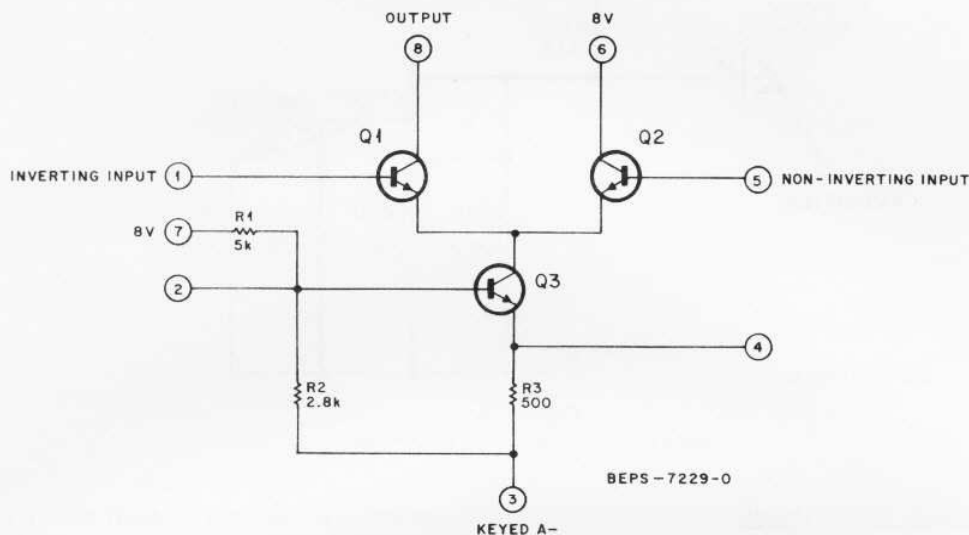

Figure 3.
Since the power control board has the capability to regulate the output of the amplifier from a completely cut-off state to above the rated output power, a definite controlled output level is necessary whenever the exciter/driver is keyed. The desired controlled output level is determined by bias voltages present on the inverting and non-inverting inputs of the differential amplifier IC601 (see Figure 3.) Under normal operating conditions (1:1 VSWR; 100% rated power out) the bias on the differential amplifier inputs are developed as described in the following paragraphs.
4.4.2.2 A defective IC on the power control board may be located by dc voltage measurements. Measure the dc voltages at the pins of the IC, as shown in the troubleshooting charts. Refer to the troubleshooting charts or the IC601 Schematic Diagram (Figure 3.) to locate and isolate any defective component on the board.